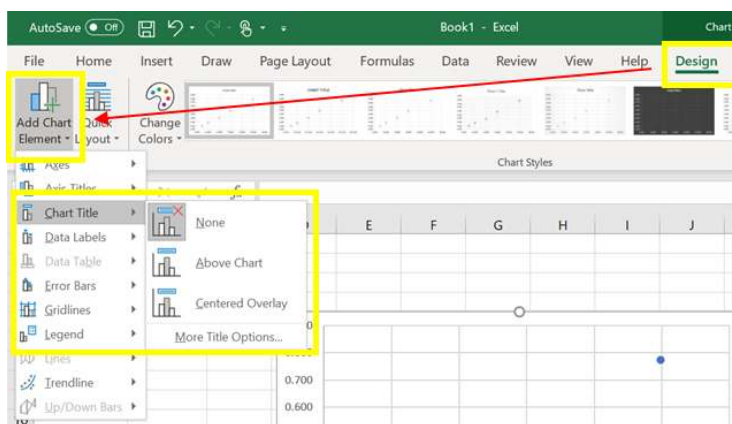

Figure 5
a) To add title, click inside the chart; switch to the Design tab, and click Add Chart Element > Chart Title > Above Chart (Figure 5)